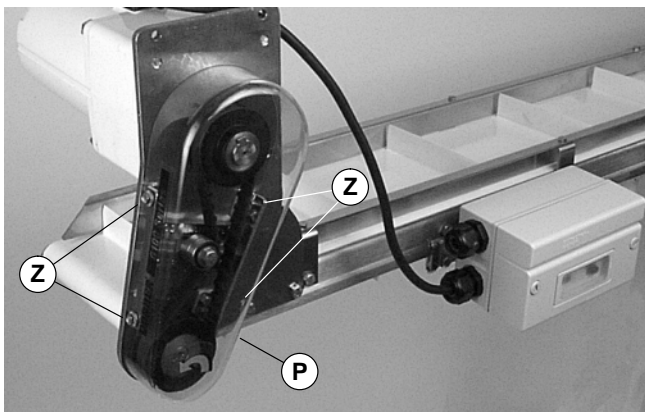

Figure 13
1. Loosen four (4) screws (Z of Figure 13) and remove cover (P).
NOTE: Do not over-tighten screws (Z of Figure 13).
6. Replace cover (P of Figure 13) and tighten four (4) screws (Z) to 35 in-lb (4 Nm).